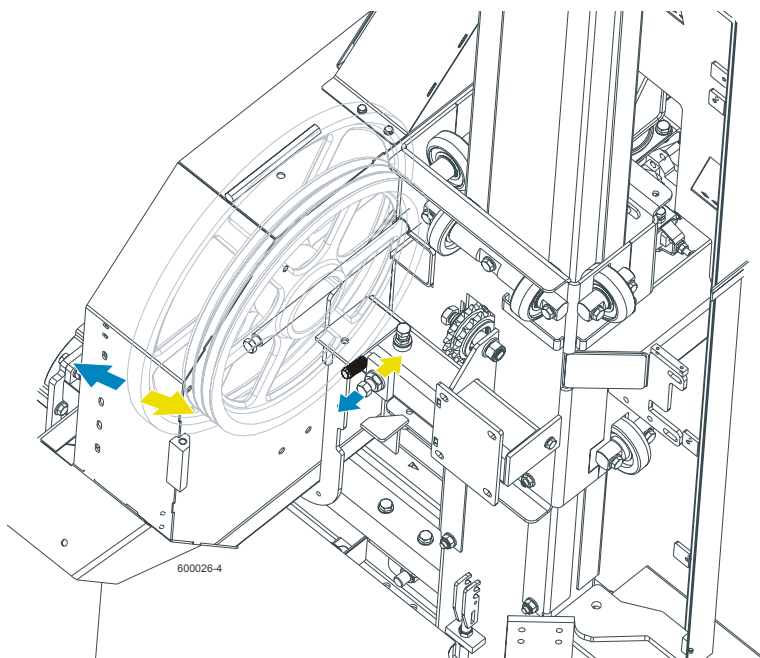

**FIG. 7-20**
**See Figure 7-20.** Use the cant control adjustment to adjust the idle-side blade wheel. If the blade is too far forward on the wheel, turn the cant control counterclockwise. If it is too far back on the wheel, turn the cant control clockwise.